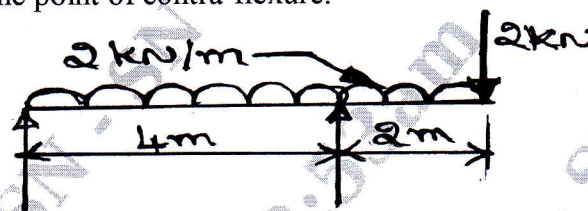

Fig.Q.5(b)
- b. Draw the shear force and bending moment diagrams for the overhanging beam, carrying uniformly distributed load of 2kN/m over the entire length and a point load of 2kN as shown in Fig.Q.5(b). Locate the point of contra-flexure. (14 Marks)